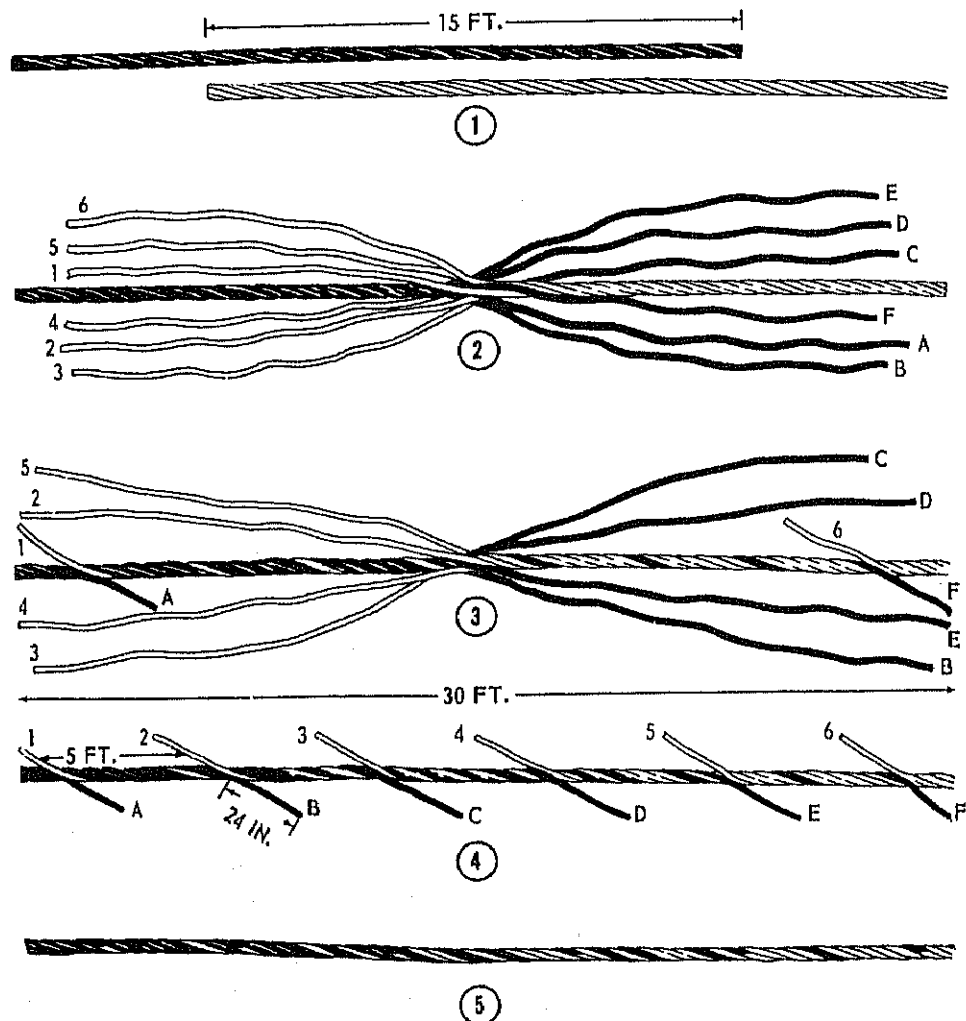

Figure 2-28.—Making a long splice in wire.
Measure 15 feet from the ends of each wire and put on temporary seizings (figure 2-28). Cut the end seizings, unlay, and whip the strands. Cut out the core, interlace the strands, and butt the ends of the rope together solidly and seize in place. (See step 2 in figure 2-28.)
Step 3: Repeat step 1 with the next strand of the first rope, stopping 5 feet short of the meeting point of the first pair. Continue unlaying and laying in successive strands, working first one way and then the other, leaving 5-foot intervals between the meeting points. When all strands are laid in, your splice should like that in step 4 of figure 2-28.